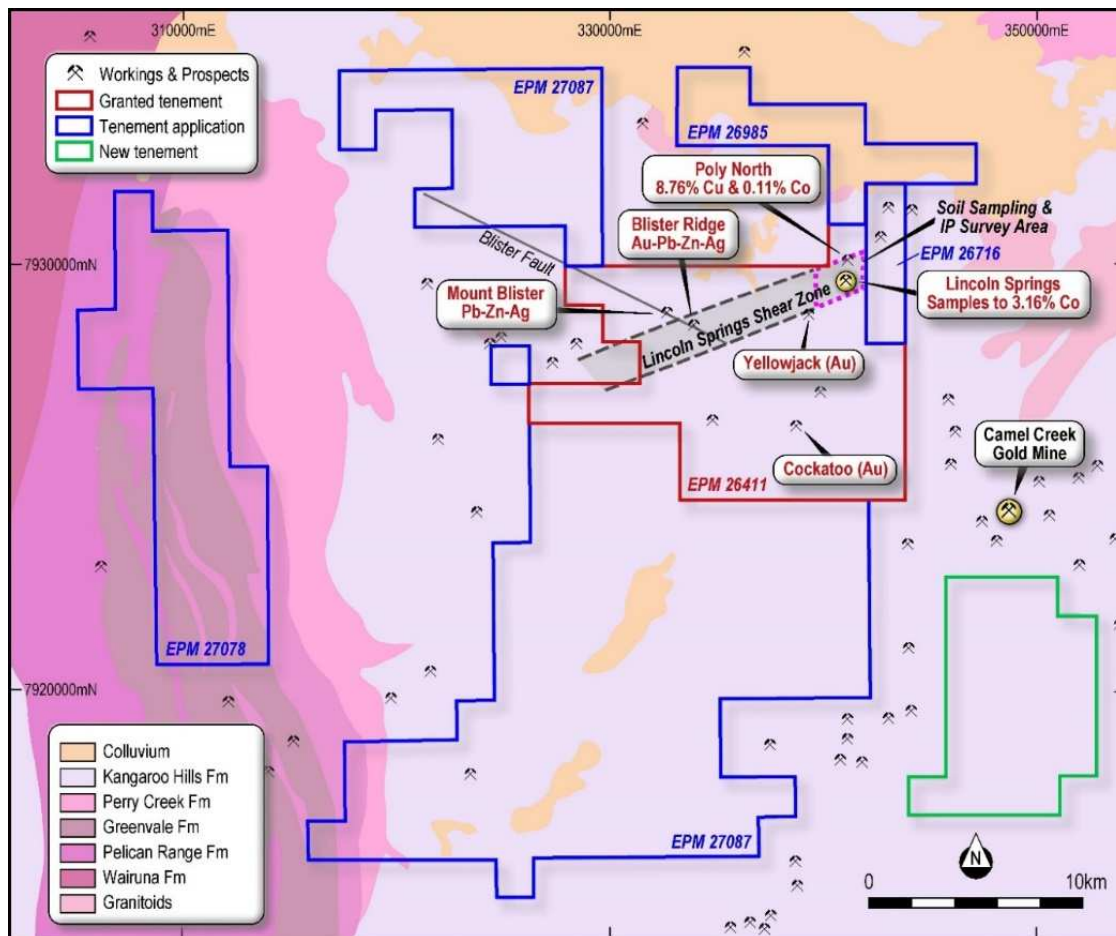

Figure 1: Lincoln Springs Project Location
**Greenpower Energy Limited** (ASX: GPP, Greenpower, the Company) is pleased to provide shareholders with preliminary exploration drilling results at the Company's Lincoln Springs Copper-Cobalt Project located 220km north west of Townsville, Queensland (Figure 1).